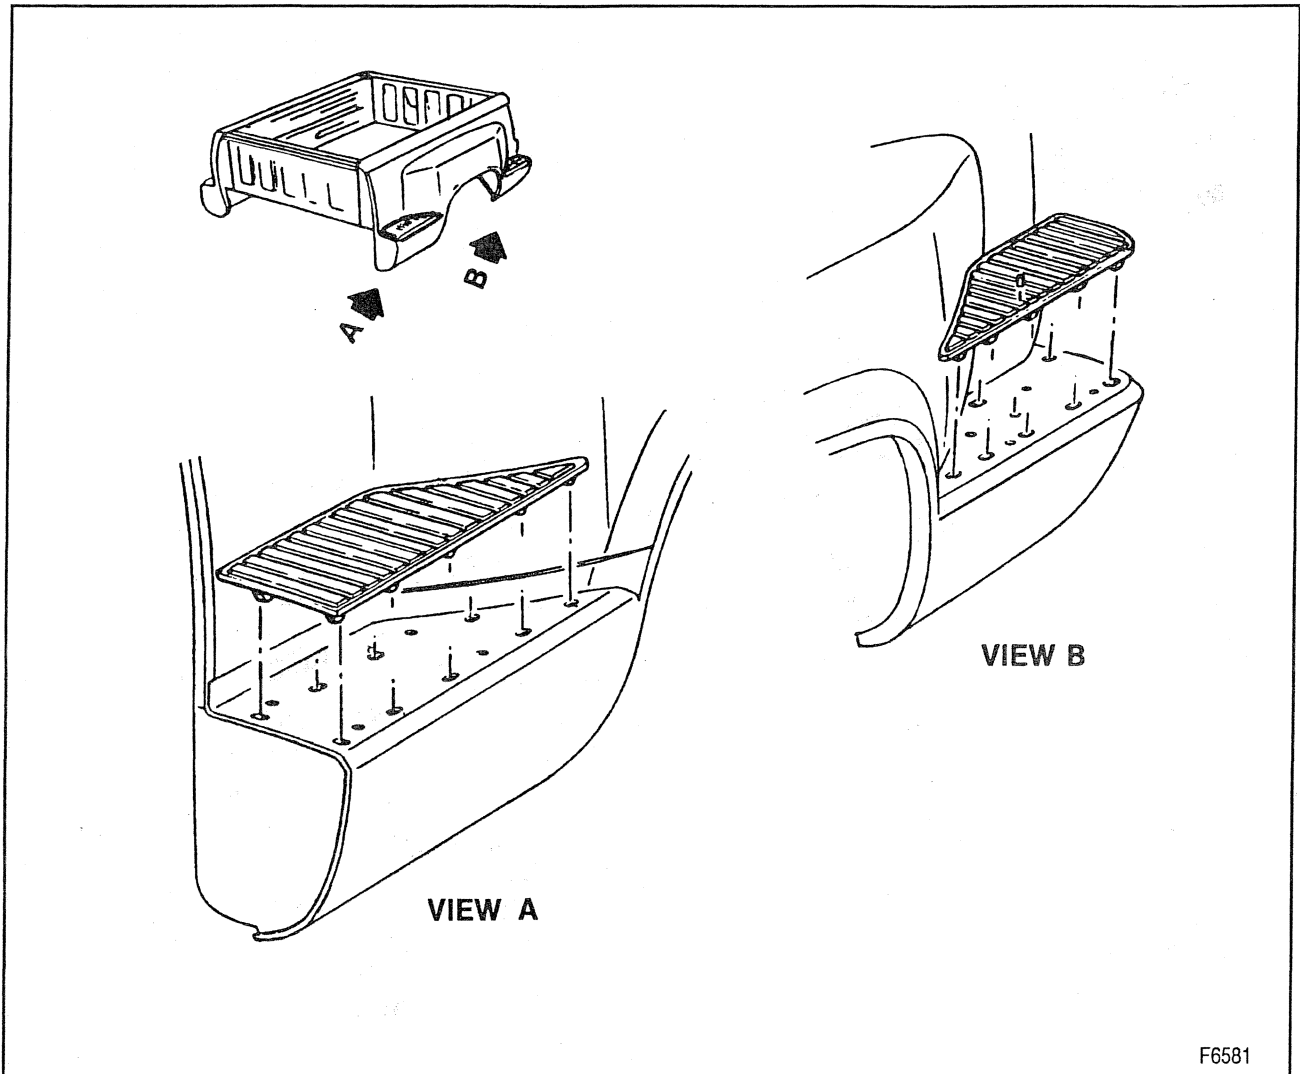

Figure 12—Step Pads
Remove or Disconnect (Figures 12 through 15)
1. Pads from fender steps (figure 12).
Install or Connect (Figures 12 through 15)